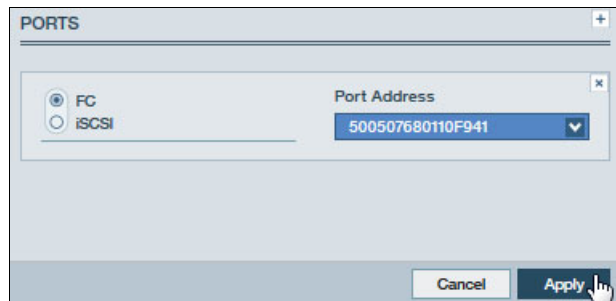

Figure 2-9 Adding SAN Volume Controller host ports to the hosts that are defined on the XIV system
5. Define the port addresses and click **Apply** to create the ports, as shown in Figure 2-9 and in Example 2-8. If you do not know what the WWPNs for the node are, you can use the `svcinfo 1snode` command against each node.